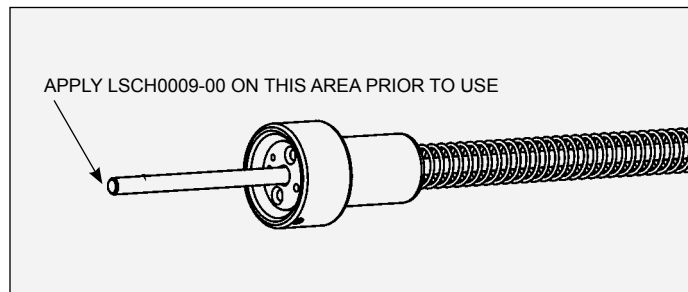

Figure 3: LSCH0009-00 Dielectric Application
3. After the power supply is grounded to a suitable earth ground, the high voltage cable may be connected. Prior to connection of the high voltage, place a small amount of LSCH0009-00 dielectric grease around the end of the tube as shown in Figure 3 below.